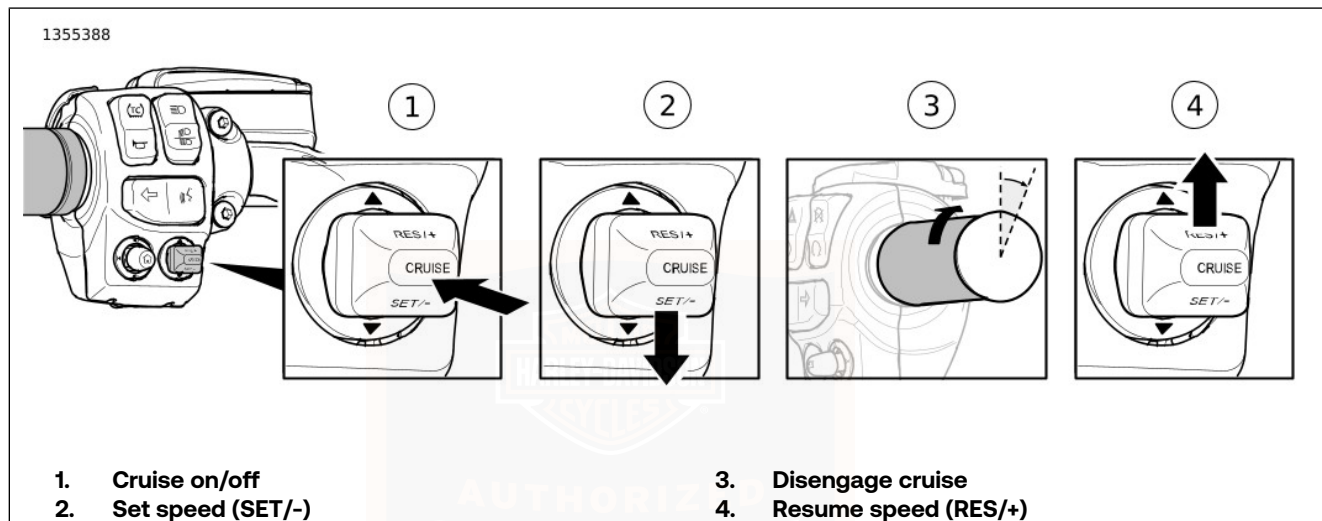

Figure 50. Cruise Control
See Figure 50. Press the CRUISE switch to turn on cruise (1). When on, the cruise indicator on the IM will be displayed in green color without speed.
See Figure 50. When the motorcycle reaches your intended speed, press the SET/- switch down to set the cruise speed (2). The cruise indicator will now have the set speed shown next to it in green.
See Figure 50. To drop out of cruise speed, roll the throttle closed through the roll-off switch (3). The cruise indicator and set speed will change to a red color.
See Figure 50. If cruise has been disengaged yet the cruise icon is still shown, pressing the RES/+ switch up resumes cruise (4). The motorcycle automatically resumes cruise at the set speed and the indicator and set speed change back to a green color.